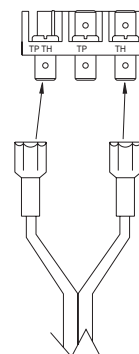

FIG. 1
- ◆ Locate the control valve at the back of the heater. Notice the electric terminals on the control valve, located on the right hand side of the valve when facing the back of the heater. See FIG 1.
7. Attach the two wires at the control valve to the two outside terminals on the terminal block. See drawing at right. (FIG. 1) (Make sure the wall thermostat is turned OFF.)